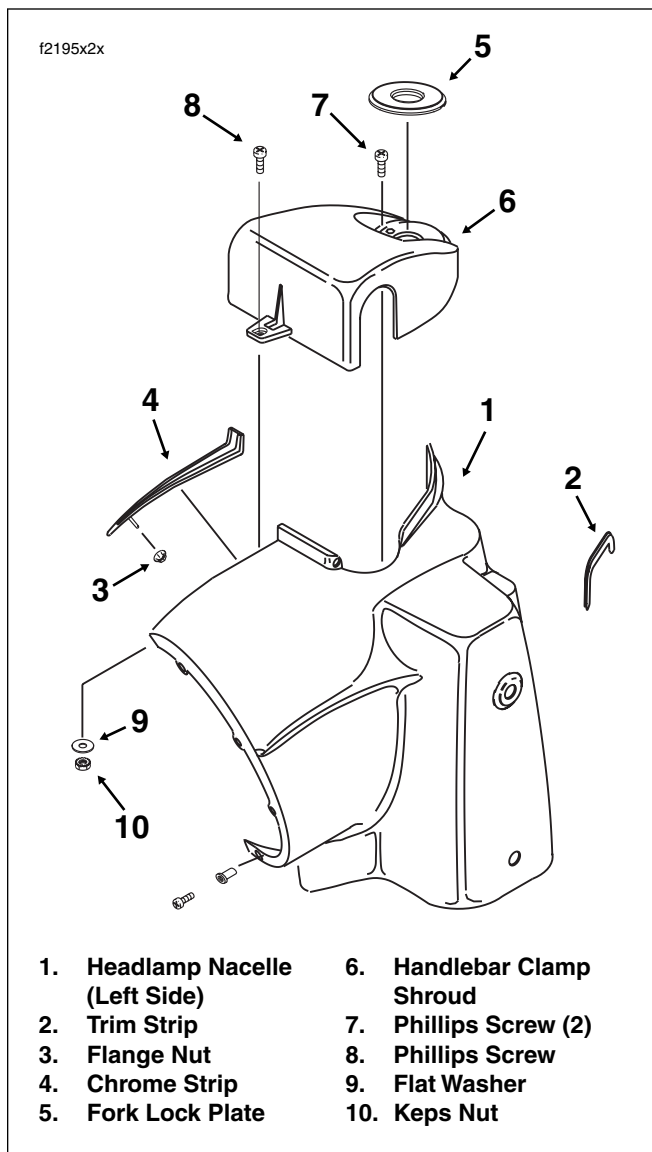

Figure 2-184. Headlamp Nacelle Assembly
- Reaching inside the headlamp nacelle, remove the flange nut to release the chrome strip at the top of the nacelle. See Figure 2-184.